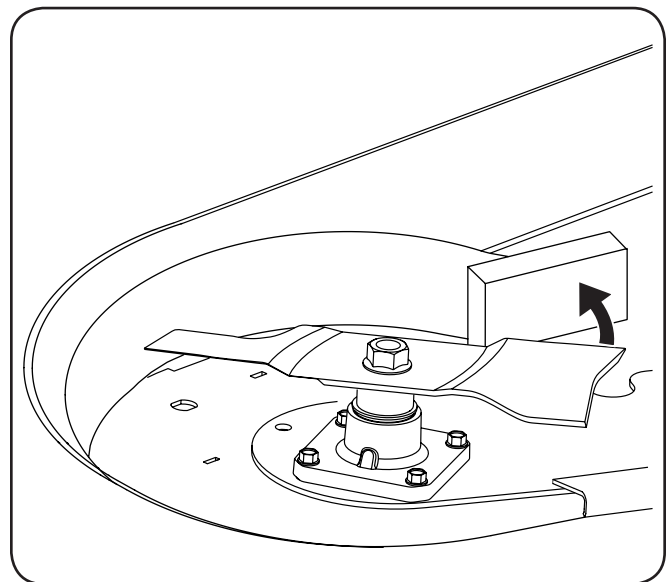

Figure 7-8
- Wrap a rag around one end of the blade and grasp it to prevent it from turning, or secure the blade by placing a block of wood between the blade and the deck housing. See Fig. 7-8.